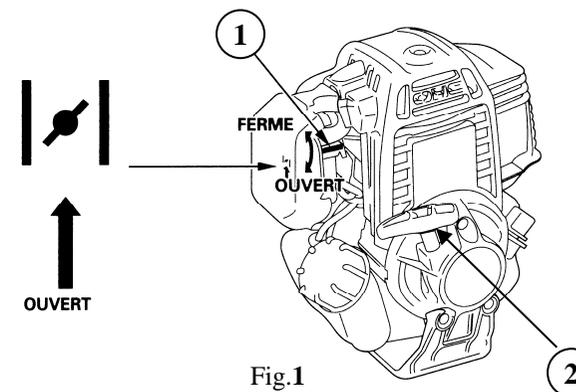

Fig.1
Adjustments are made as follows (Fig.1) :
- ❷ Set the position of the choke Ref.❶ to ambient temperature and to engine temperature (Fig.1) :